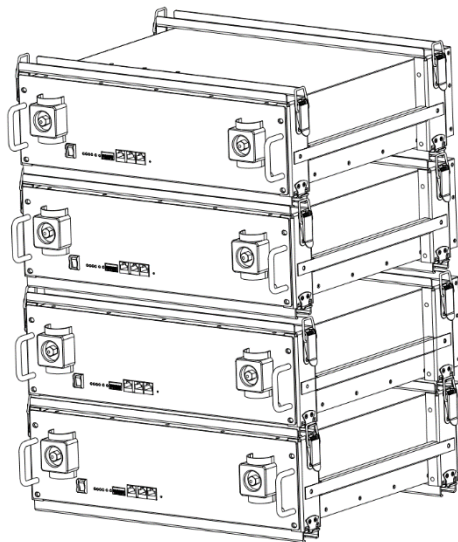

Figure 3-7
4. Stack the required number of battery and bracket combinations as described above, and fasten the upper and lower buckles. Shown as Figure3-7.